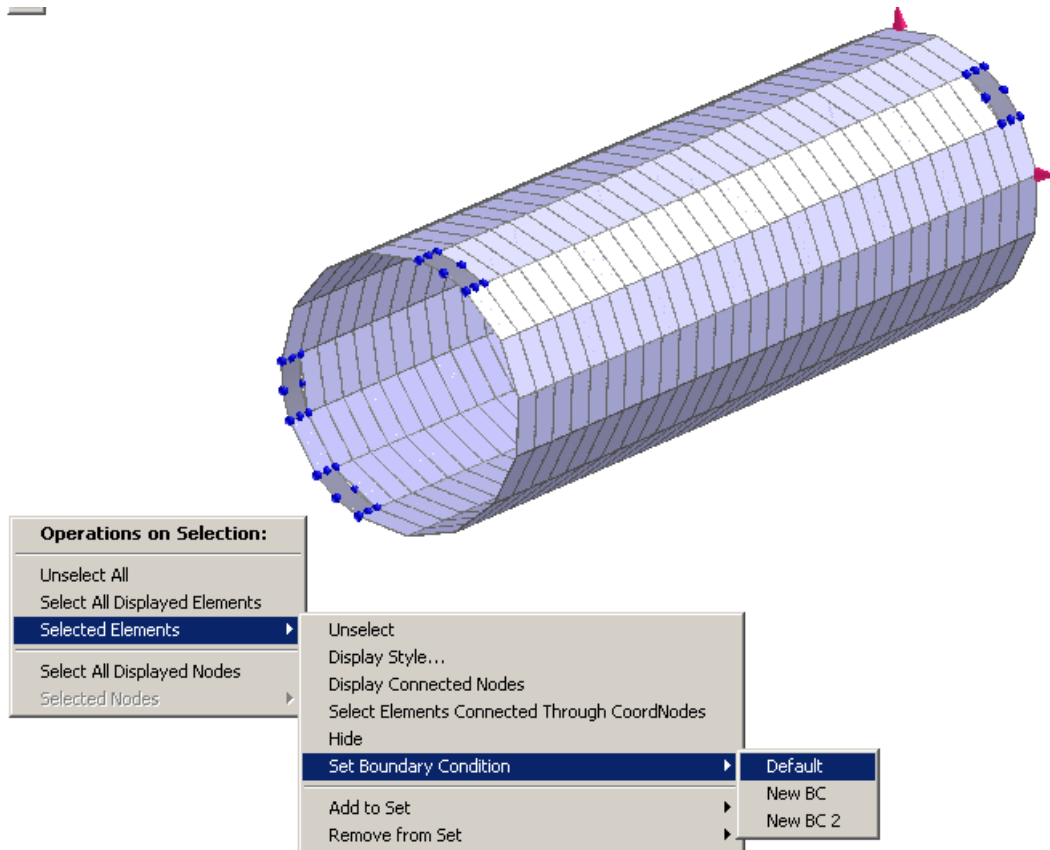

Figure 6.47 Applying boundary conditions through elements.
- Apply BC. To apply BC on all selected elements in the GUI, right-click with the *shift-key* held down and select: **Operations on Selection** → **Selected Elements** → **Set Boundary Condition** → *<Boundary Condition Name>* (Figure 6.47). Note that the boundary condition list is only visible if BCs are defined before hand.